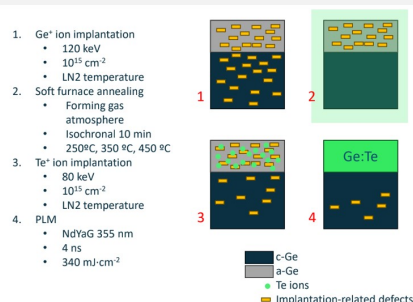

Fig 1. Depiction and explanation of possible processes on Ge
Solar panels that are typically made of semiconductors are only up to 33% effective. One reason is because solar panels do not absorb all the light. In order to combat this, *hyperdoping* was developed to incorporate ultra high concentrations of other elements. This results in more light absorption but, there is less time for energy conversion due to new structural damages. This leads to using soft furnace annealing and PLM (Fig 1) which helps to remove some damages and restore a crystalline structure. With Tellurium hyperdoped Germanium (Ge:Te) there are dopant tails that come from the tellurium which negatively impacts lifetime. These damages are fixed by *pre-amorphization* which should keep dopant tails from forming. This experiment is to test the quality of Ge:Te and the impacts of pre-amorphization and annealing.
- Fig 1 implies structural damage in II Ge + PLM is greater than damage from II Ge + II Te + PLM